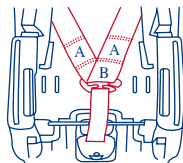
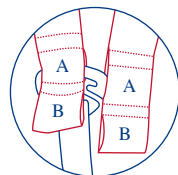

Fig. 31-2
Fig. 31-3
8. Reassemble the Harness Straps to the Belt Adjuster Plate. Do the left Harness Strap first, followed by the right Harness Strap. Check that Harness Straps are completely within the Belt Adjuster Plate loop (Fig. 31-2). You have two adjustment positions on the harness. Use Position A for a smaller child, and Position B for a larger child. If using Position A, loop B must be on top of the Belt Adjuster Plate. (Fig. 31-3)